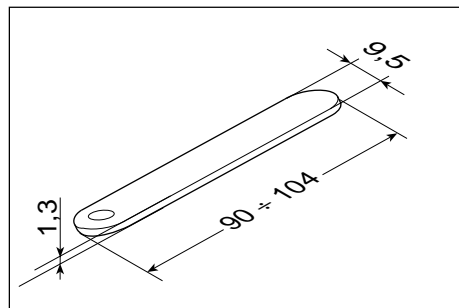

Fig. 26
**Warning:** The stirrer dispensing device works exclusively with the type of stirrers shown in figure 26. The use of even slightly different stirrers may cause jamming.